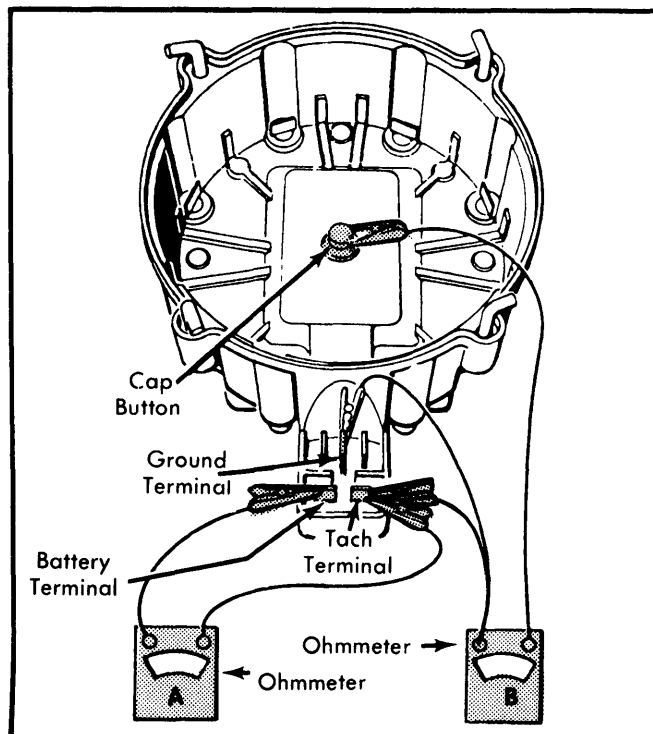

Fig. 3 Distributor Cap and Coil Testing Connections for Delco-Remy HEI Distributor (Integral Coil Only)
2) To test coil primary resistance, connect one ohmmeter lead to battery terminal on distributor cap. See Fig. 3. Connect other lead to tach terminal of distributor cap. Ohmmeter reading should be 0.4-1.0 ohm. Connect ohmmeter leads to tach terminal and ground. Reading should be infinity. If either reading is not to specifications, replace ignition coil.
3) To test coil secondary resistance, connect one ohmmeter lead to coil secondary contact (cap button). See Fig. 3. Connect other lead to tach terminal. Ohmmeter reading should be infinity.